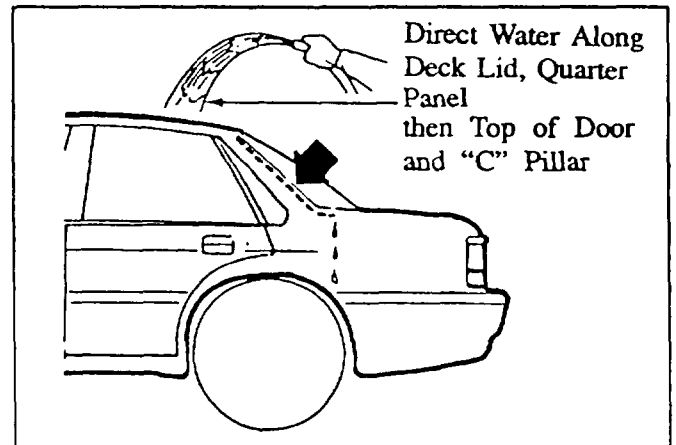

Figure 17: Locating Source of Rear Water Leak
5. Have an assistant direct the water stream over the entire rear of the vehicle, concentrating on the following areas: **Figure 17**.
NOTE: Direct a heavy stream of water where the rocker panel meets the inner wheel well (to check for leakage into the rocker panel). **Figure 17**.